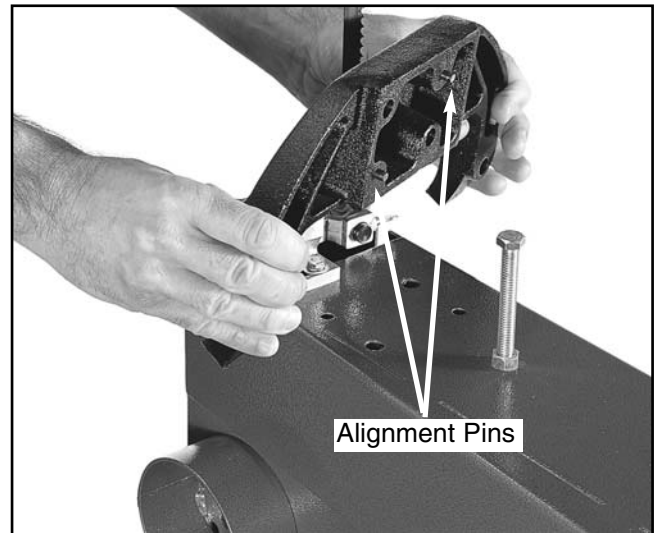

Figure 2. Alignment pins on bracket support.
1. Remove the two trunnion support bracket mounting bolts from the bandsaw body. Note the two alignment holes shown in Figure 2.